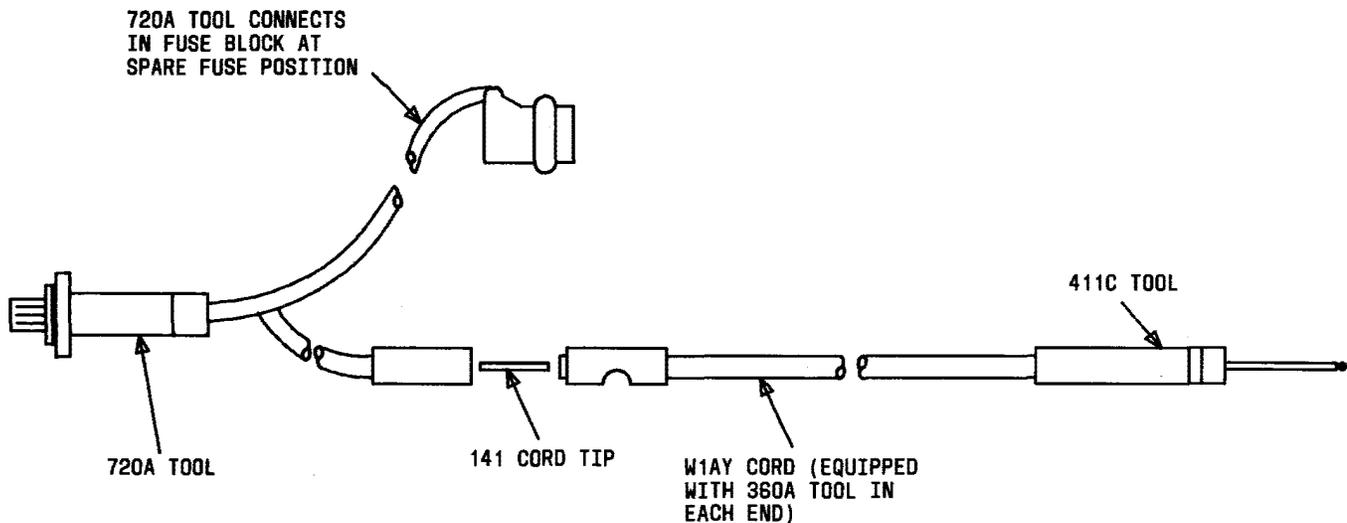

Fig. 11—Fuse Alarm Test Cord Assembly
(1) Prepare a fuse alarm test cord per Fig. 11.